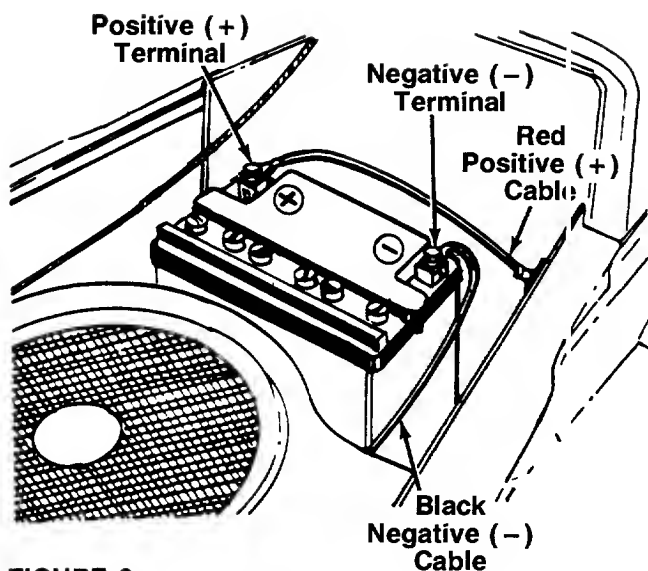

FIGURE 6.
2. Attach the positive cable (heavy red wire) to the positive battery terminal (+) with hex bolt and hex nut provided with battery. See figure 6.